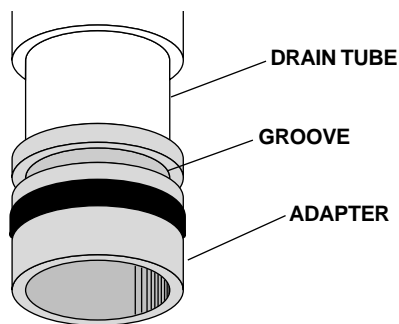

FIGURE 31
2. Install the vacuum wash station assembly on the adapter, then tighten the thumbscrews in the groove (see Figure 31).